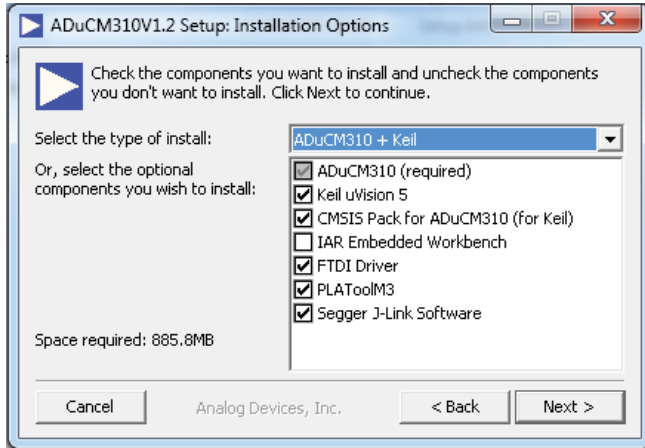

Figure 2. Installation Options
3. Double-click **ADuCM310.exe** and follow the on-screen instructions. A dialog box displays installation options, as shown in Figure 2.